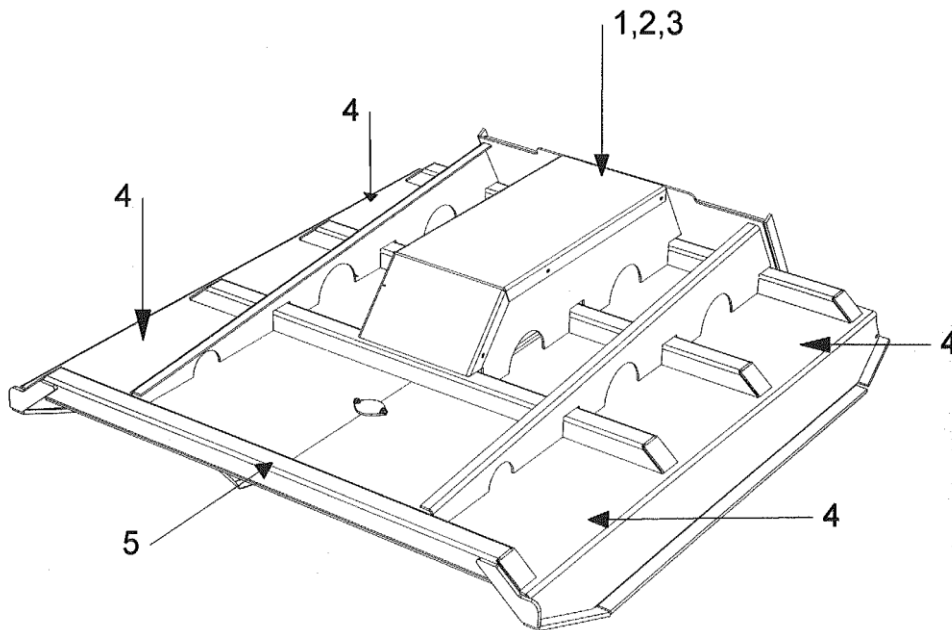

Figure 4 – Brush Cutter – Rear View
* see figure 4 for drive detail